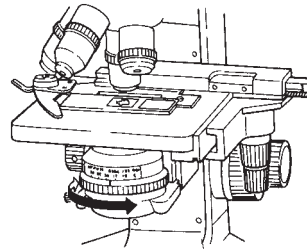

Fig. 4.9
- Change to 100x objective (Fig. 4.9).